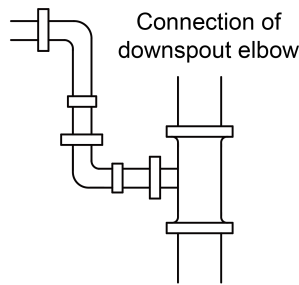

Fig.4.3.7
- No.2: Connection of downspout elbow (Fig.4.3.7).